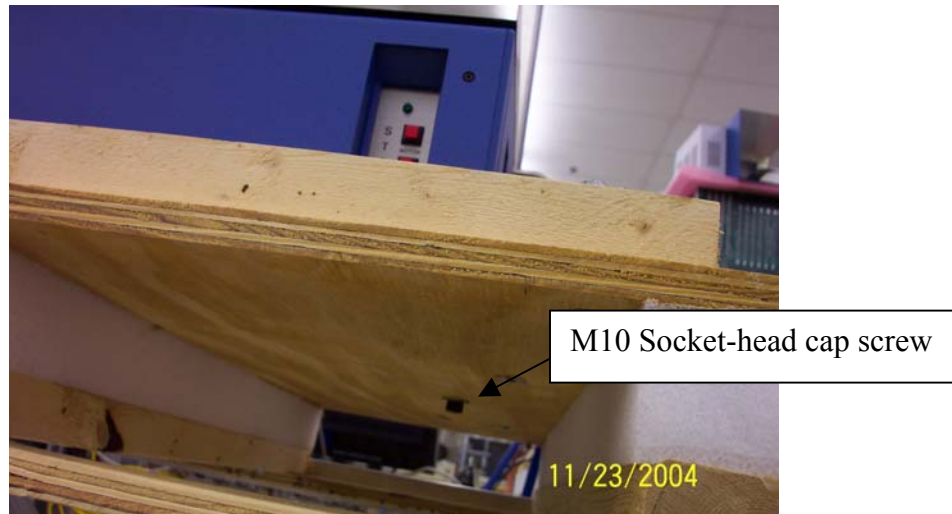

Figure 8
- 21.) Insert the M10 Socket cap screw with washer in the right hand side hole under the pallet (Figure 8). Set the hole to correspond with the threaded hole under the instrument and turn the bolt to ensure that it catches the threading. On the left hand side under the pallet there are 2 holes. Set the 2 holes under the pallet to correspond with the 2 threaded holes under the instrument, insert two M10 Socket head cap screw, and turn the bolts to ensure that they catch the threading. Once it is confirmed that all the 3 bolts are on the instrument, tighten the bolts slightly with 8mm metric hex key. Do not over tighten at this point.